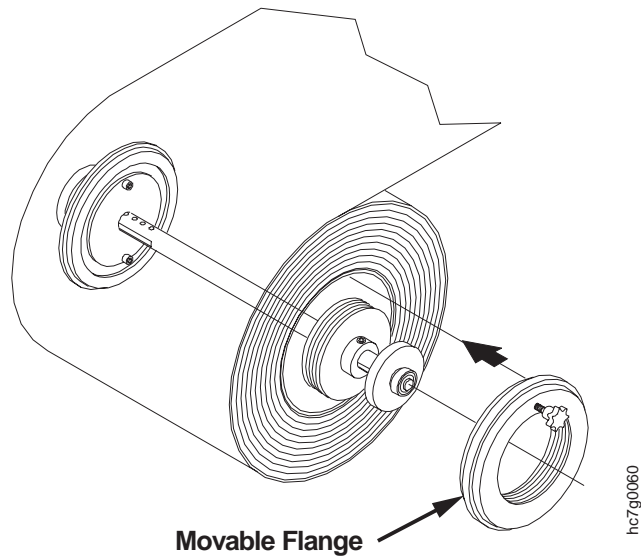

Figure 239. Mounting the Movable Flange
4. Mount the movable plastic flange with the side matching the core diameter of the roll facing the roll, as shown in Figure 239 on page 272.